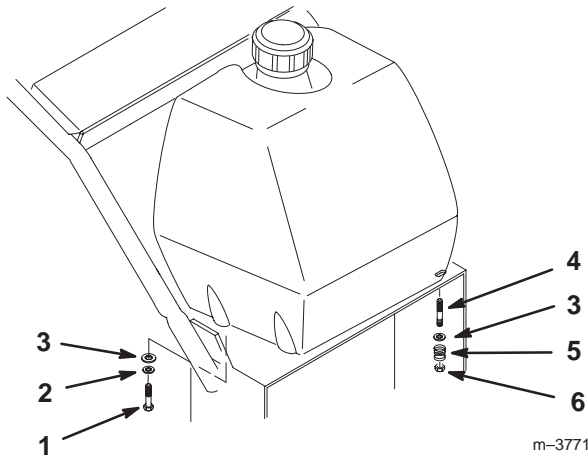

Figure 13
2. Align the fuel tank to the top of the rear frame, and secure the right side of the fuel tank with 2 bolts (5/16 x 3/4 in.), 2 lock washers (5/16 in.), and 2 washers (5/16 in.) (Fig. 13).
3. Secure the fuel tank studs to the frame with 2 washers (5/16 in.), 2 springs, and 2 locknuts (5/16 in.) (Fig. 13).